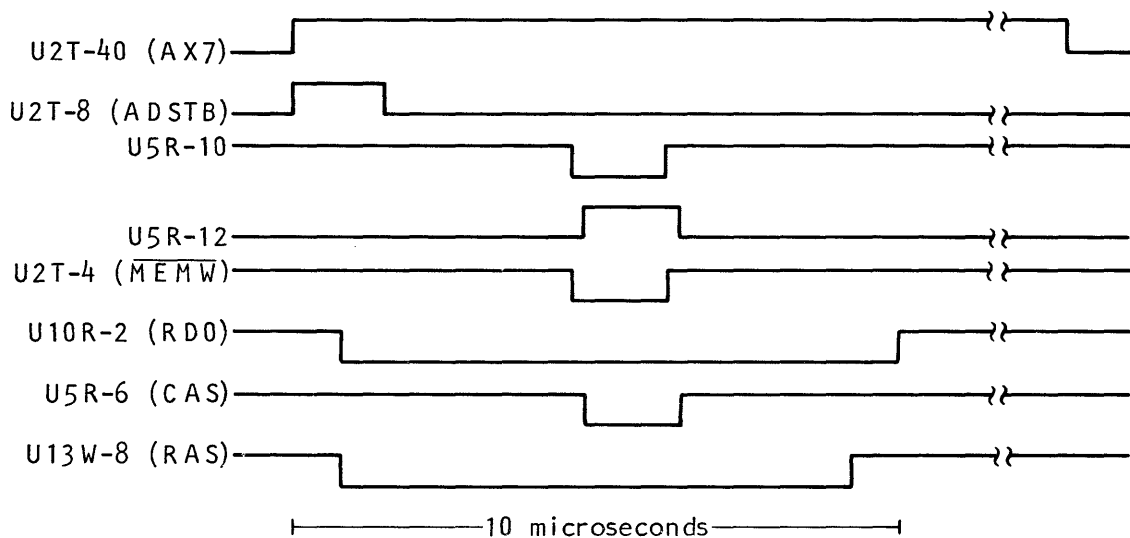

Figure 3-4. Service Aid 42 Sequence Timing
3-27. **Service Aid 42.** This service aid activates the cache memory DMA controller (channel 2), address and data lines for troubleshooting. See Figure 3-4 for the relative timing/sequence of a cache memory write operation. The data lines have a high state (1) value rotated through the byte from LSB to MSB, therefore, only one bit is high at a time. The address lines have a low state (0) value rotated through the 16 bit address word, thus, only one address line is low at a time. Power must be cycled to exit this service aid.